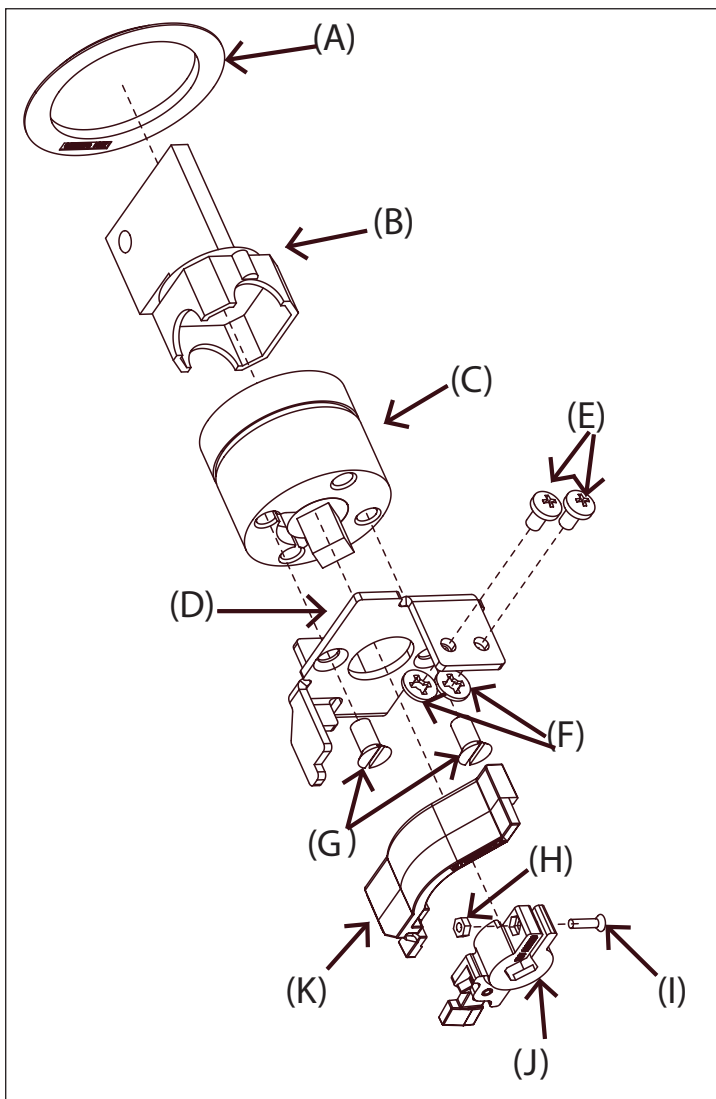

Figure 1. Contents of kit.
Refer to Figure 1 for visual identification of the parts listed below.
Step 4: Refer to Figure 1 for orientation purposes. Remove the key (B) from the cylinder (C), then remove the two mounting screws (G) from the back of the cylinder. Attach the metal mounting bracket (D) to the back of the cylinder using the mounting screws just removed. Note that the embossed letter or symbol on the cylinder should be in vertical orientation and point toward the two bracket mounting screws.
Step 5: The lever assembly (J) can now be attached to the square shaped shaft on the back of the cylinder (C). It is secured to the square shaped shaft by a mounting screw (I) and mounting nut (H). Usually the lever assembly comes with the mounting screw and nut already installed. If this is not the case, install the screw through one side and the nut on the opposite side in a recessed hole made to accommodate the nut. Push the lever assembly onto the shaft until it touches the mounting bracket tab. Make sure the lever assembly is straight when being installed onto the shaft. Once installed, firmly tighten the mounting screw (I) into the nut (H).
Step 6: Install the button support (K) by sliding it over the mounting plate (D). Ensure the grooves are seated against the mounting plate on top and bottom.